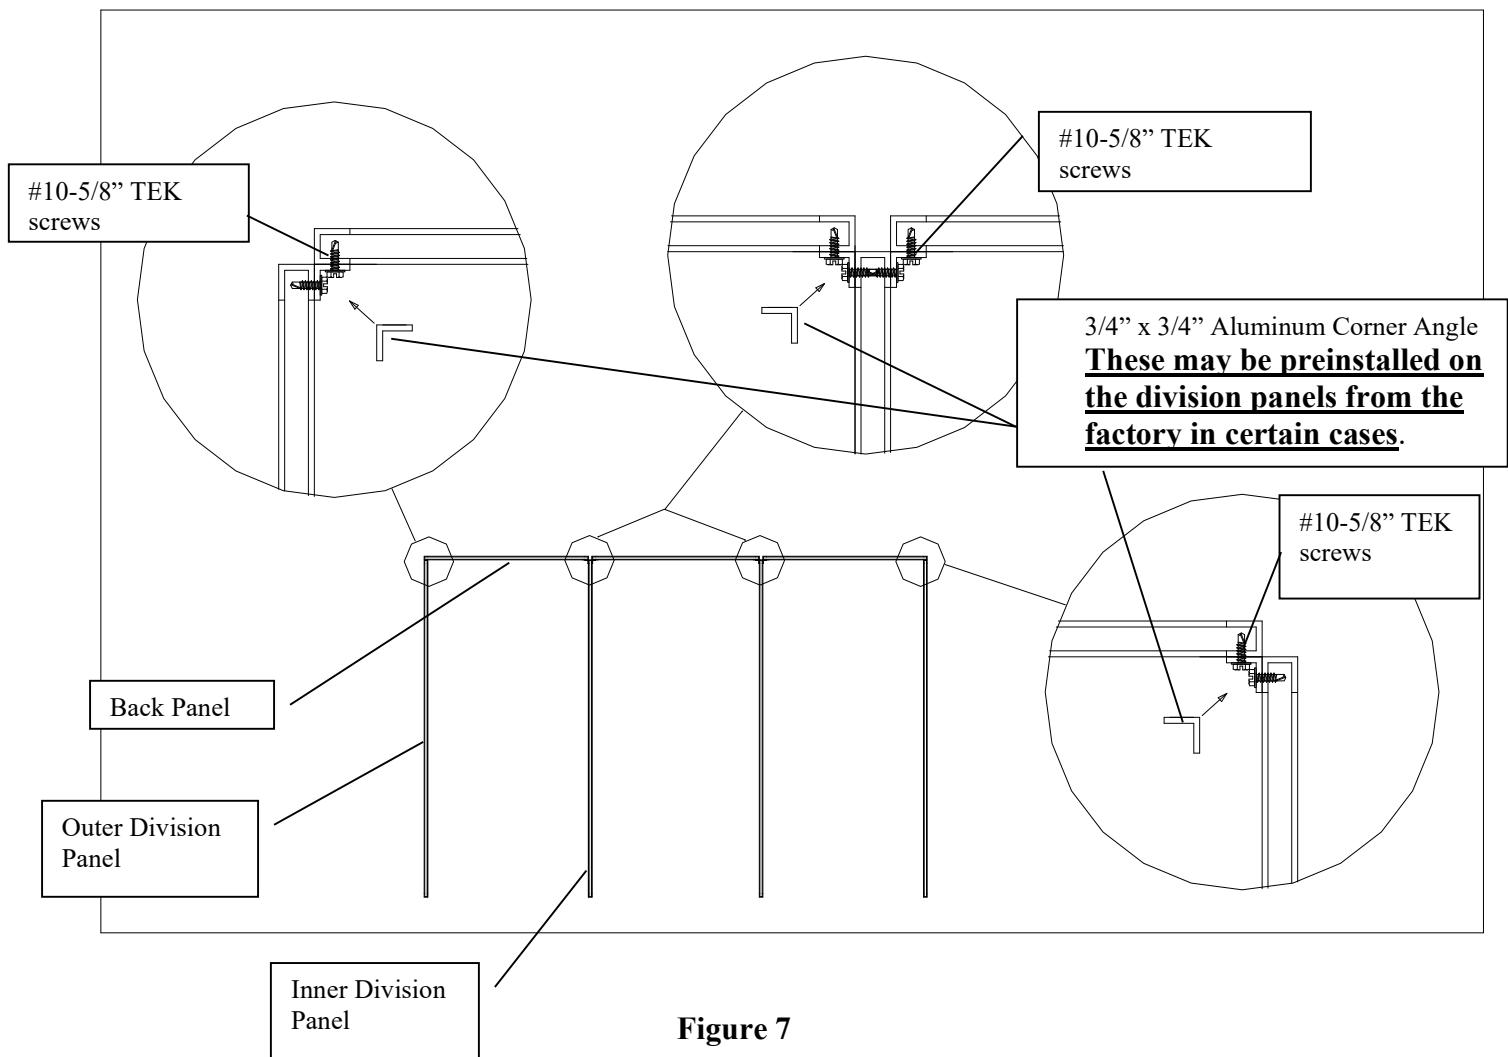

Figure 7
6. Starting from the point you selected in step C-1 place the first "outer division panel" on the corresponding "Sanislope T". See Figure 7 for the sequence in which to assemble the panels.
7. Following the floor layout sequence, set the first back panel against the corner of the back edge of the end division panel. Clamp the full-length corner angle in position (see Figure 7). The corner angles are predrilled with clearance holes in the proper locations. Vise grips or C-clamps are recommended to keep the parts from shifting. Fasten the panels together using #10 screws as depicted. Angles should be flush with the tops of the panels. **These may be preinstalled on the division panels from the factory in certain cases.**
9. Continue placing and connecting division panels and back panels in the proper sequence, paying close attention to the corner layouts, as shown in the enlarged views on Figure 7.
4. Repeat steps D-1 through D-3 for all remaining division panels following the same sequence used to assemble the panels as shown in Figure 7. Continue the leveling process for all runs and or banks of runs.